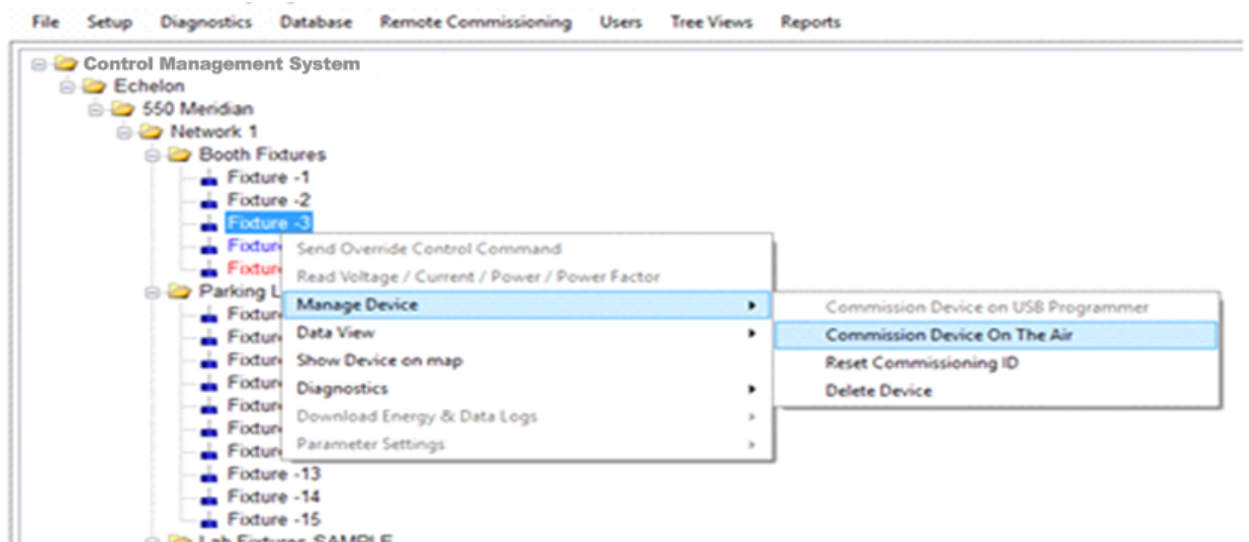

Figure 31. Commission Device On the Air
2. Select **Manage Device** and **Commission Device on the Air**, as shown in Figure 31.